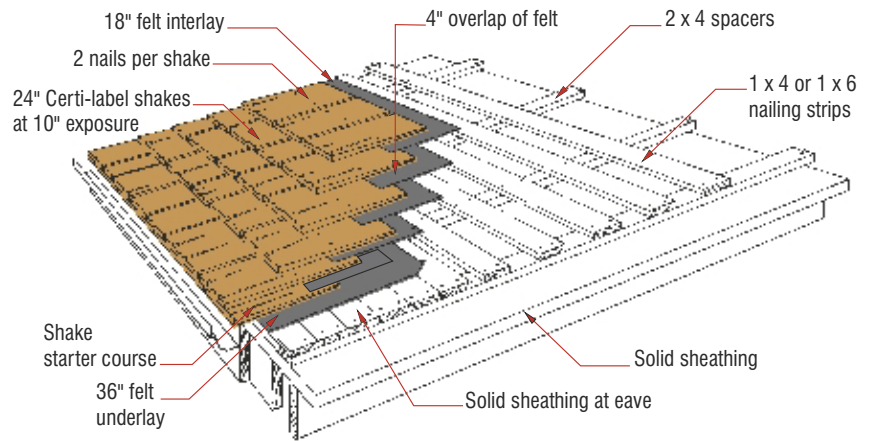

Figure 22a: Vertical Strips Over Solid Sheathing Application (Option 2 Depicted)
2. Apply vertical strips over the sheathing in alignment with the rafters below, then place horizontal furring strips on top of the vertical boards. (See Figure 22a).